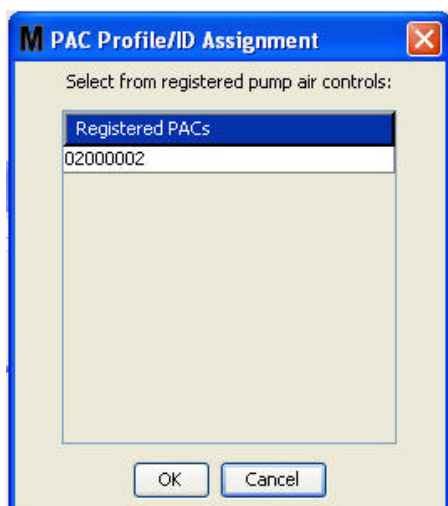

FIG. 114
4. After you have named the PAC, click the link button. The Profile/ID Assignment screen shown in FIG. 114 displays. From the list of registered Pump Air Controls, select a PAC from the list. Click OK to close the screen and save the changes. A complete description of the PAC registration procedure is provided in the Pump Air Control instruction manual. Instructions are also provided in the How to Register a Pump Air Control section in Appendix A of this manual on page 197.